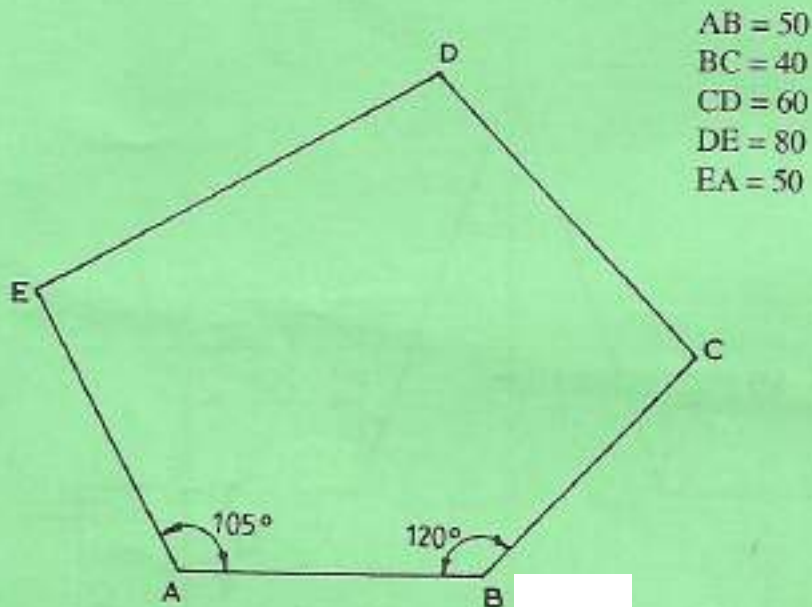

Fig. 2
2. Figure 2 shows a metallic template ABCDE. Draw the template such that the new area is $\frac{4}{7}$ of the original area. Take A to be the centre of reduction. (15 marks)